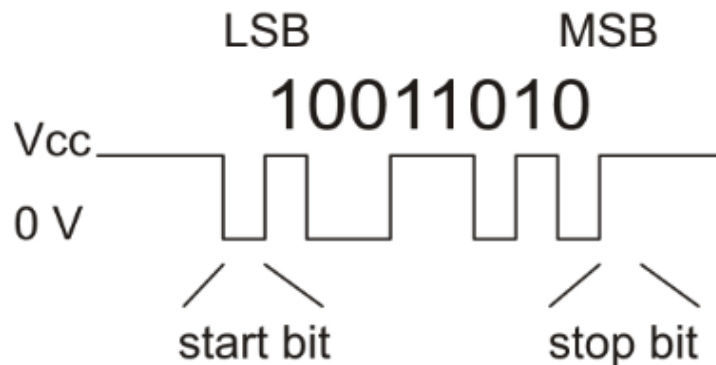

Figure 9: Example Serial Data stream
Figure 9 shows that the normal output on PIN 12 should be high. When data starts to be written, a start bit (0) is sent, then 8 data bits and a stop bit (1) at the end of packet.